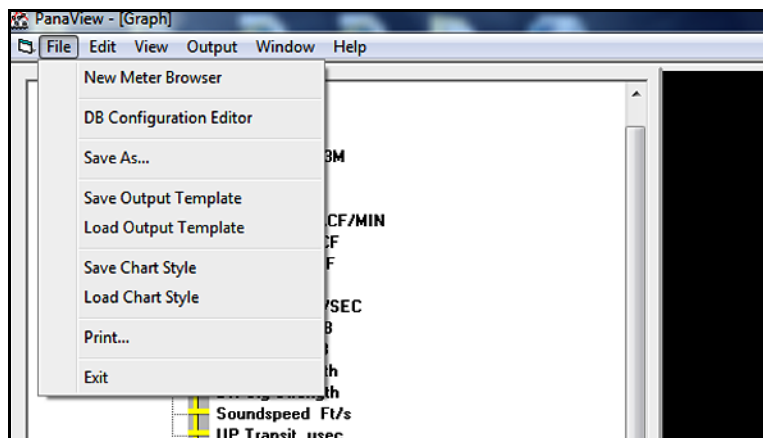
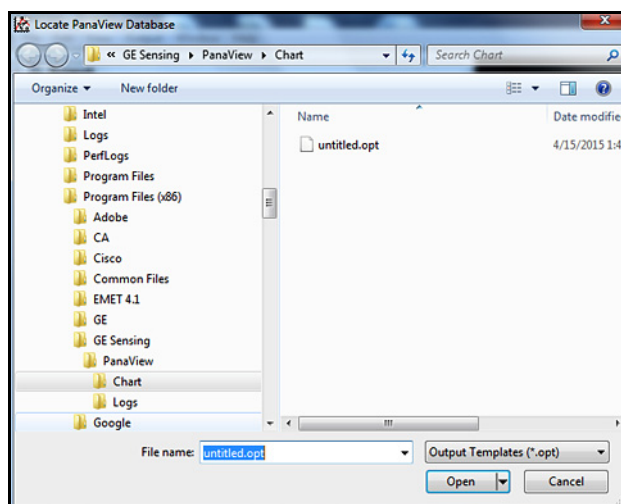
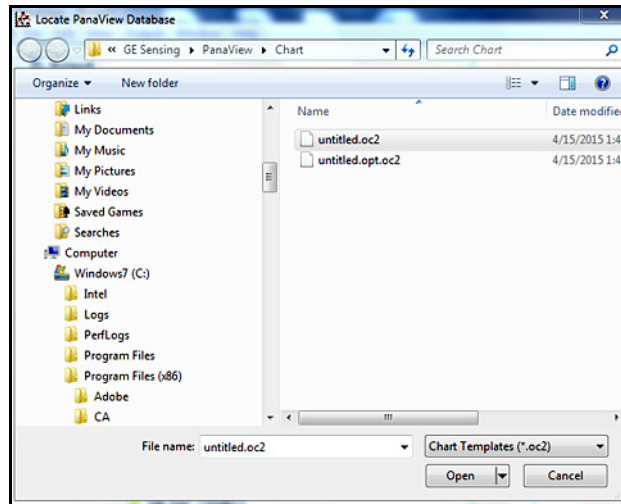

Figure 65: The File Menu for Graphs
Figure 69: Opening an Output Template
Figure 70: Opening a Chart Style Template
After setting up a chart (graph), as described in the previous section, you will find that several new menu options are now available in the “File” menu (see Figure 65 below).
- Open the “Output” menu and click “Graphing - From Template” option (see Figure 61 on page 51) or open the “File” menu and click “Load Output Template” option (see Figure 65 on page 57). If any output templates (*.opt) have been saved, select the desired file in the dialog box shown in Figure 69 below. Then, Click [Open] button to load the properties and parameters to be graphed from the output template selected.
- Open the "File" menu and click "Load Chart Style" option (see Figure 65 on page 57). If any chart templates (*.oc2) have been saved, select the desired file at the dialog box shown in Figure 70 below. Then, click the [Open] button to load the graph properties from the output template selected.